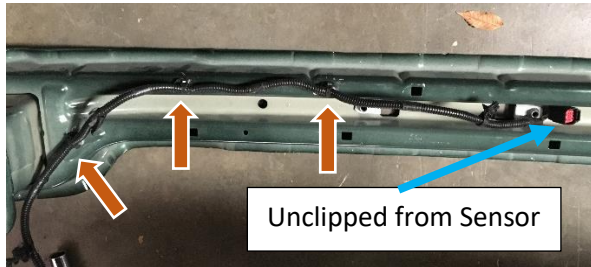

Figure 18: Front Radar Wiring Harness Removal
- b. Collision prevention / adaptive cruise control sensor – unclip from sensor and remove all clips from steel (Figure 18).